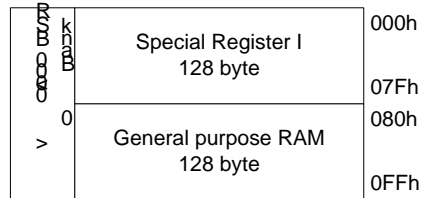

Fig 2-4 Data Memory (DM) Architecture
Data Memory (DM) is composed of Specially Register (SR) and General Purpose Register (GPR). Furthermore, it takes every 256byte as a block. 128byte Specially Register and 128 byte General Purpose Register is as in Fig 2-4.